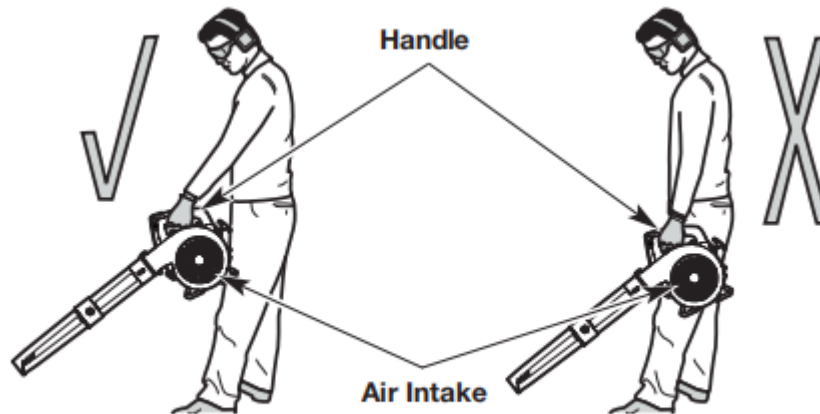

Fig. 8
- Stand in the operating position (Fig. 8). Stand up straight. Do not bend over.
- Hold the unit in front of, and away from, your body (Fig. 8).
To prevent serious personal injury or damage to the unit, DO NOT hold the unit at your side (Fig. 8). The engine may be extremely hot. DO NOT block the air intake.